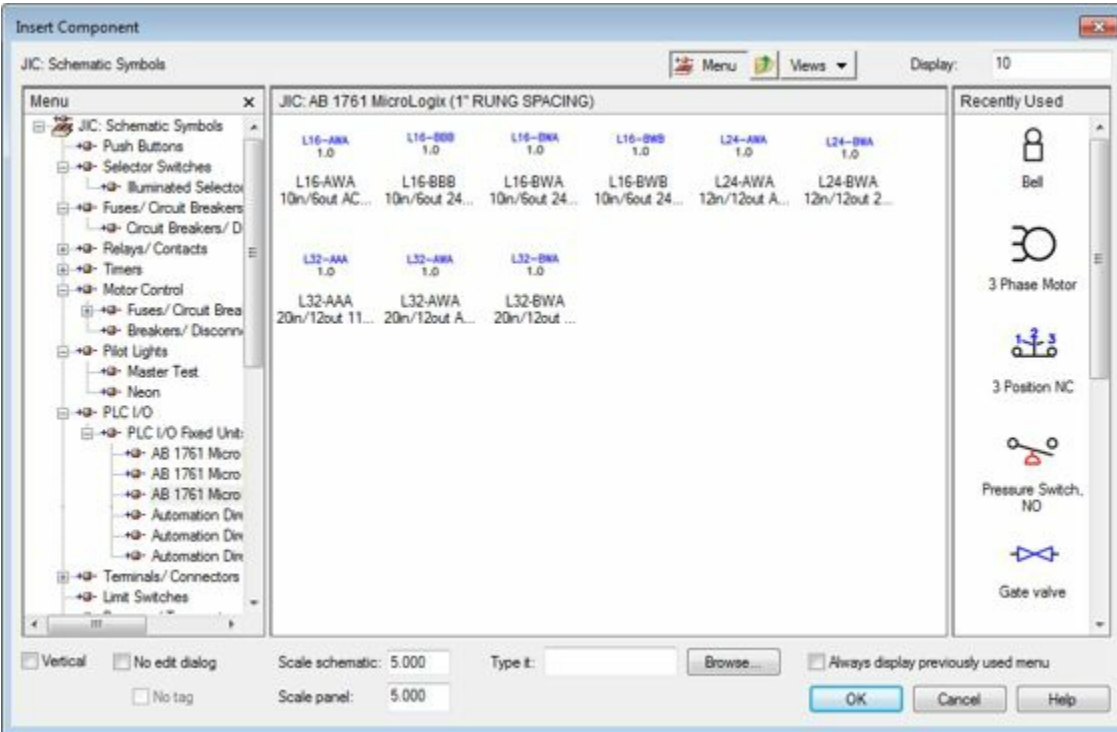

Figure-51. Insert Component with PLCs listed
- Click on the **AB 1761 Micrologix (1" Spacing)** category from the dialog box. The list of PLCs will be displayed; refer to Figure-51.